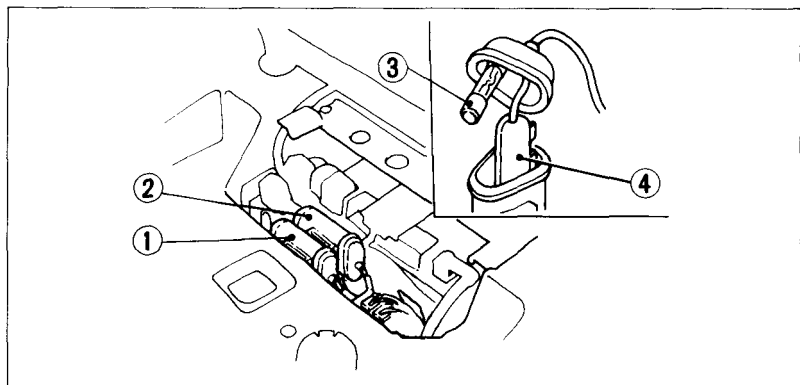

Fig. 4-19                      (1) Main fuse (Red wire)    (3) Spare fuse
As illustrated in Fig. 4-19, the main fuse (1), the sub fuse (2) and the spare fuse (3) are located in the battery compartment. Both the main fuse and the sub fuse are 15 A. (The main fuse is connected to the red wire.)